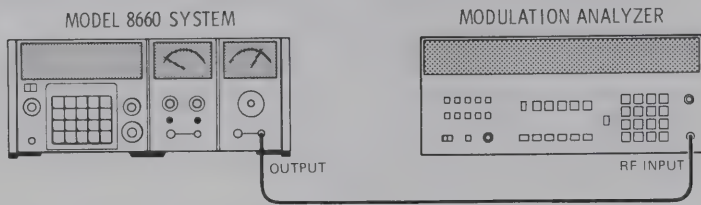

Figure 4-3. FM Deviation and Meter Accuracy Test Setup
3. Connect the equipment as shown in Figure 4-3.